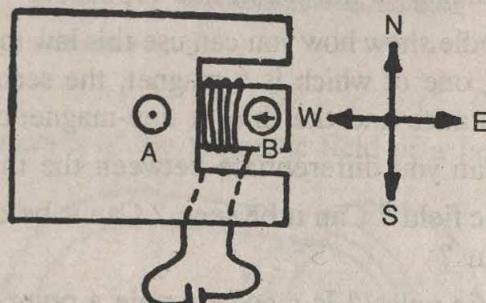

Fig. 7.27
18. In Fig. 7.27 the compass needle B, east of the coil, points west. Which way does compass needle 'A' point ? Put in the correct needle direction in A.